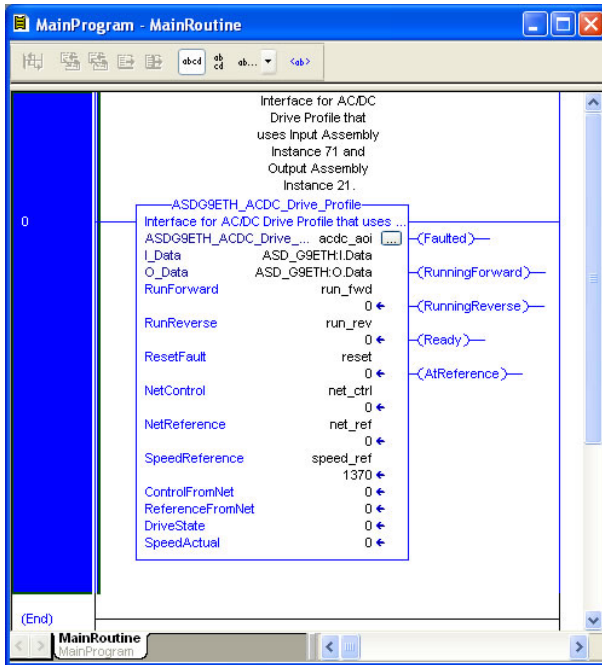

Figure 91: Configure AC/DC Drive Profile AOI
- 10) Edit the AOI according to Figure 91.